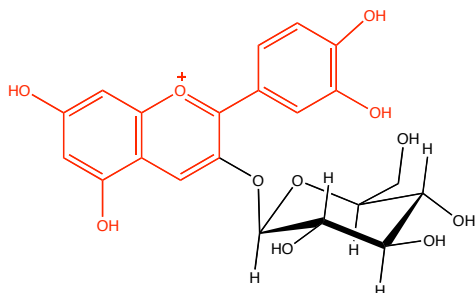

Figure 1. Anthocyanin molecule.
In this lab, you will construct a photovoltaic cell (PV), or solar cell. Before starting this lab, you should already be familiar with the concepts of absorption, transmission, and the visible spectrum. Rather than using silicon in your cell, you will be using blackberry juice as an absorber. Blackberry juice is full of a class chemical compounds known as anthocyanins (fig. 1). These compounds are what give many fruits and vegetables their distinct colors. This includes blackberries, strawberries, raspberries, and even the deep red and orange colors of autumn leaves.